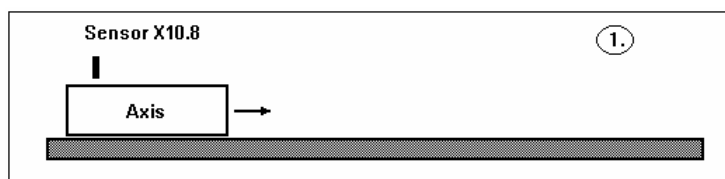
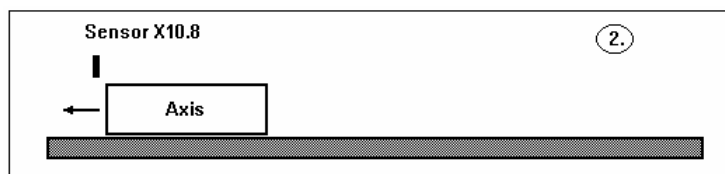

Figure 3
Figure 4
2. At reference modes with reference sensor, the search for reference is started in the opposite direction, if the reference sensor is already active at the start of the search for reference (see figure 3). After the reference sensor becomes free (inactive) the axis is stopped (see figure 4). Subsequently the reference sensor is moved to in the specified reference direction and the search for reference is ended according to the reference mode.